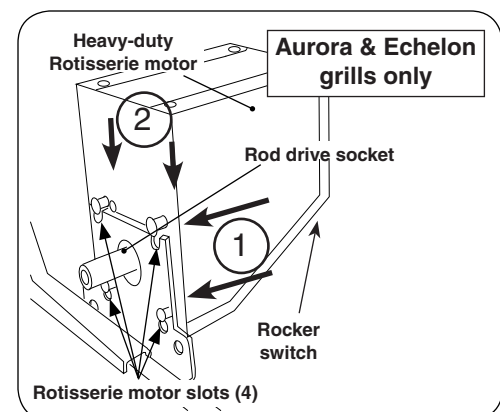

Fig. 3-4 Install motor (3606S, 3609G)
3. Slide the rotisserie motor fully onto the motor bracket (right side, Fig. 3-4).
1. Slide the rotisserie motor fully onto the existing motor bracket on the grill (right side, Fig. 3-4).